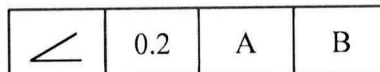

Figure Q3(c): Feature control frame
- (c) **Figure Q3(c)** displays a feature control frame, which consists of several boxes or compartments. Produce the appropriate interpretation of each of these boxes.